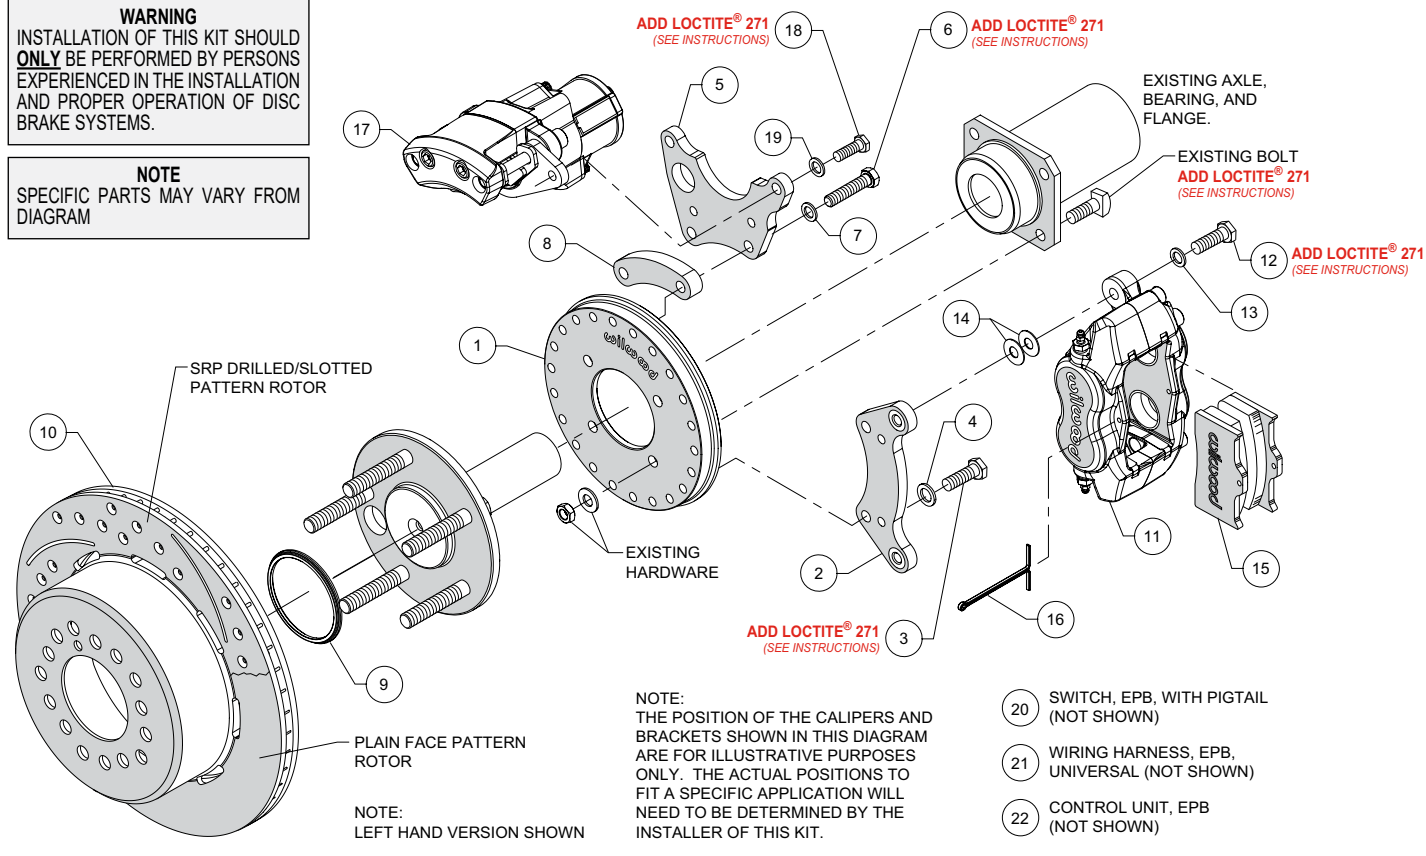
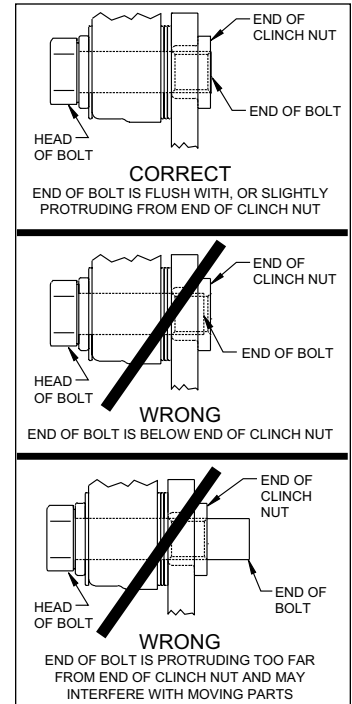

Figure 1. Typical Installation Configuration
Figure 4. Clinch Nut Engagement Diagram
NOTE: Numbers in parenthesis refer to the parts list and Figure 1 on the preceding pages.
CAUTION: All mounting bolts must fully engage clinch nuts. Be sure to check that all bolts are either flush or protruding through flanged side of clinch nut after shimming, Figure 4.
- Orient the backing plate (1) as shown in Figure 1 and Photo 1, and mount it to the axle housing flange using the Original Equipment Manufacturer (OEM) bolts, washers and nuts, Figure 1. Ensure the backing plate fits flush against the axle housing flange. Apply red *Loctite*® 271 to the OEM bolt threads and torque to OEM specifications.
•Start by determining the best location for the service caliper (11). This caliper is usually mounted in the 3:00 or 9:00 o'clock position, but may be rotated up or down approximately 45 degrees and still allow for proper bleeding, Photo 2. Orient the service caliper bracket (2) as shown in Figure 1 and Photo 3, and install to the backing plate (1) in the desired location using bolts (3) and washers (4). Temporarily tighten bolts. Next, mount the service caliper to the bracket using bolts (12) and washers (13). Temporarily tighten bolts. Check that the caliper (including inlet fitting and hose) has sufficient clearance to all surrounding components through the full suspension travel. Relocate the caliper/bracket on the backing plate as needed to ensure proper clearance is achieved.
•Determine the best location for the EPB caliper (17). **NOTE:** The EPB caliper motor extends farther inboard than the service caliper and therefore needs additional consideration when determining a mounting location with sufficient clearance. In the example application shown in Photo 4, the EPB caliper has sufficient inboard clearance to the leaf spring. However, if the EPB caliper were mounted closer to the 12:00 o'clock position, the inner body of the vehicle would hit the caliper during full compression of the suspension.
•Orient the EPB caliper bracket (5) as shown in Figure 1 and Photo 5, and install to the backing plate (1) in the desired location using bolts (6), washers (7), and spacer (8). Temporarily tighten bolts. **NOTE:** The EPB bracket is reversible. In one direction the bracket will position the EPB caliper closer to the service caliper, and vice versa if reversing the bracket. Next, mount the EPB caliper (17) to the bracket using bolts (18) and washers (19). Temporarily tighten bolts. **NOTE:** EPB calipers are Left and Right handed, however they can be used on either side of the vehicle to best suit your specific application. Check that the EPB caliper (including wiring harness connector) has sufficient clearance to all surrounding components through the full suspension travel. Relocate the EPB caliper/bracket on the backing plate as needed to ensure proper clearance is achieved.
- Once the caliper positions have been determined, remove both the service (11) and EPB (17) calipers, leaving both brackets in place on the backing plate. For both brackets, remove the bolts one at a time, apply red *Loctite*® 271 to the threads, and torque to 35 ft-lb.
- Slide the rotor registration adapter (9) onto the register on the axle flange with the smaller O.D. facing toward the rotor/hat (10), Photo 6. Align the correct hole pattern in the rotor/hat with the stud pattern on the axle flange and slide into place, Figure 1. **NOTE:** The rotor/hat must fit flush against the axle flange or excessive rotor run out may result. Install three lug nuts (finger tight) to keep the rotor/hat assembly in place while continuing with the installation. **NOTE:** Some OEM and after market axles come with stud sizes larger than 0.50" diameter. Verify stud size and have a qualified machine shop drill the bolt circle of the hat/rotor to the correct stud size, if necessary.
- NOTE:** Please reference the caution statement at the beginning of the assembly instructions. Remount the service caliper (11) onto the caliper mounting bracket (2) using bolts (12) and washers (13), as shown in Figure 1. Initially place two .035" thick shims (14) on each bolt between the caliper and the bracket, Photo 7. Temporarily tighten the mounting bolts and view the rotor (10) through the top opening of the caliper. The rotor should be centered in the caliper, Photo 8. If not, adjust by adding or subtracting shims (14) between the bracket (2) and the caliper (11). Always use the same amount of shims on each of the two mounting bolts. **NOTE:** The end of each bolt must be flush with or slightly protruding from the head of the clinch nut, as shown in Figure 4. If necessary place spare shims (14) between washer (13) and caliper mounting ear to achieve the proper clinch nut engagement. Once the caliper alignment and clinch nut engagement are correct, remove the bolts one at a time, apply red *Loctite*® 271 to bolt threads, and torque to 40 ft-lb.
- Install the disc brake pads (15) into the service caliper (11), with the friction material facing the rotor (10), Photo 9. Secure the pads in place using the cotter pin (16), Photo 10.
- Mount the EPB caliper (17) onto the caliper mounting bracket (5) using bolts (18) and washers (19), Figure 1. Apply red *Loctite*® 271 to bolt threads, and torque to 30 ft-lb.
- NOTE:** The service caliper (11) in this brake kit utilizes a 1/8-27 NPT pipe thread inlet. OEM rubber brake hoses generally cannot be adapted to Wilwood calipers. The preferred method is to use steel adapter fittings at the caliper, either straight, 45 or 90 degree (use PTFE tape on pipe threads of adapter fitting for proper sealing to caliper) and enough steel braided line to allow for full